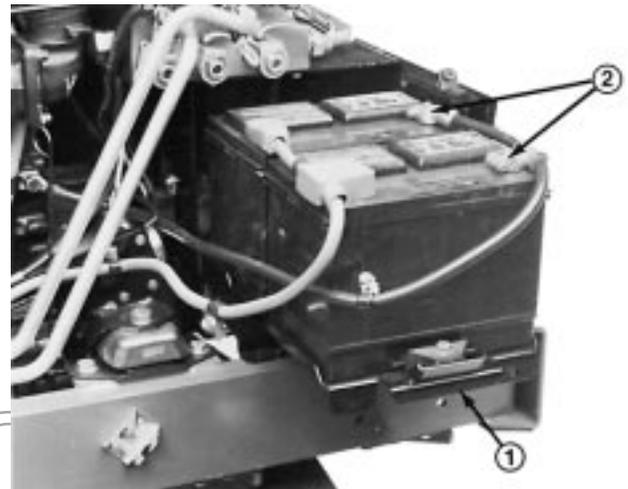

Figure 52
2. Remove capscrews securing battery tray to machine and slide tray out (Fig. 52).
4. Remove negative (-) battery cable connectors from batteries (Fig. 52). Connect a 3 to 4 amp. battery charger to the posts. Charge the batteries at a rate of 3 to 4 Amperes for 4 to 8 hours.